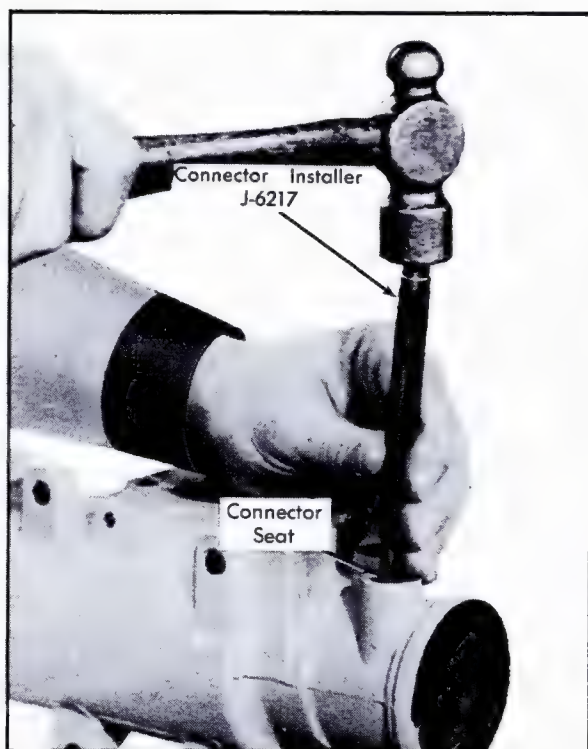

Fig. 9-38 Installing Hose Connector Seat
10. Install new connector seats, using petrolatum to hold connector seat on check valve in pressure port. Drive connector seats in place using Valve Connector Seat Installer, J-6217, Fig. 9-38.